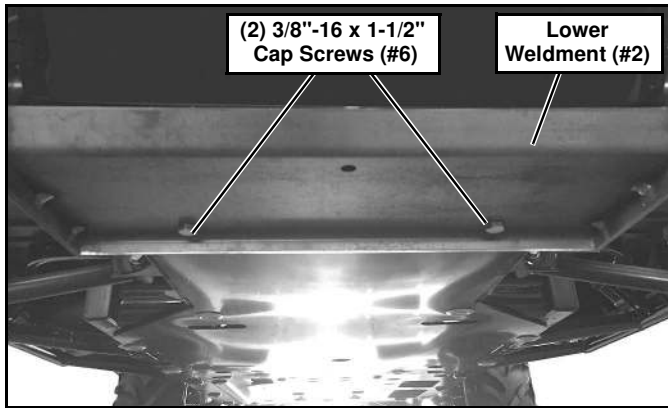

Figure 3
4. Insert (2) 3/8"-16 x 1-1/2" Cap Screws (#6) through the bottom holes in the Lower Weldment (#2) and into the frame. Secure with (2) 3/8"-16 Lock Nuts (#7). (See Figure 3.)